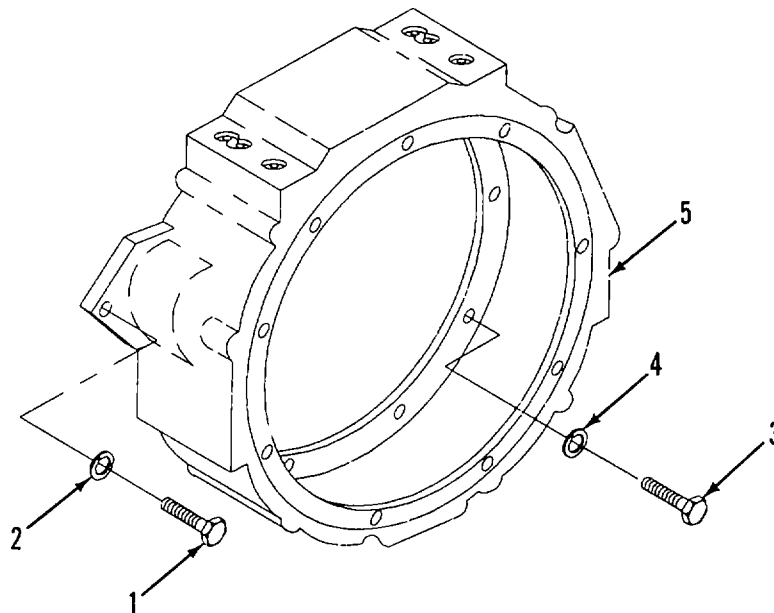

Figure 3-25. Flywheel Housing
- a. REMOVE. (Figure 3-25)
- (1) Remove bolt (1) and lockwasher (2) from outside of flywheel housing (5).
- (2) Remove bolts (3), lockwashers (4) and flywheel housing (5).